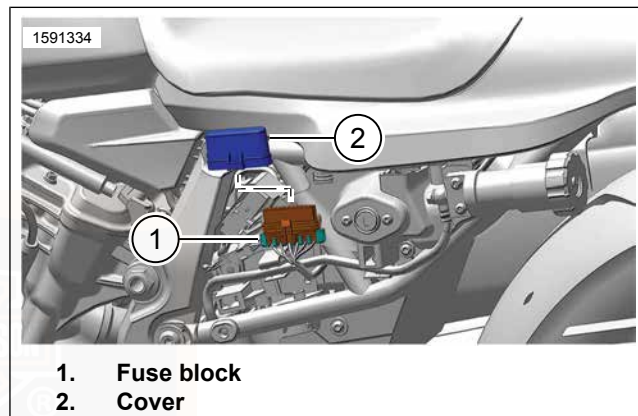
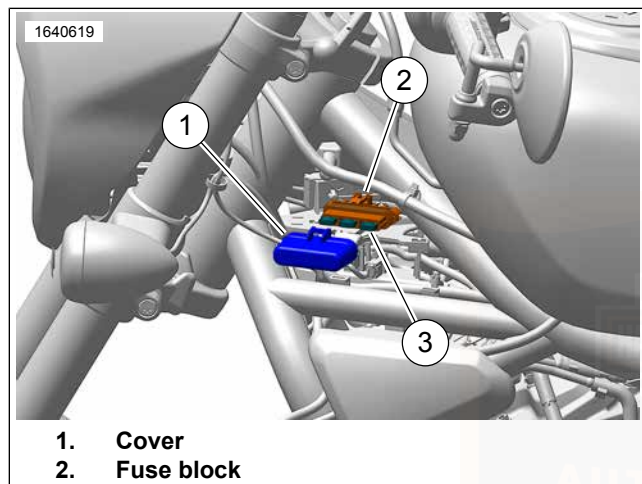

Figure 99. Fuse Block Location (RH1250S)
Figure 100. Fuse Block Location (RH975)
See Figure 99 or Figure 100. The fuse block (1) is located under left side cover.
1. See Figure 99 or Figure 100. Install fuse block cover (2).
- a. Verify tabs snap into fuse block (1).